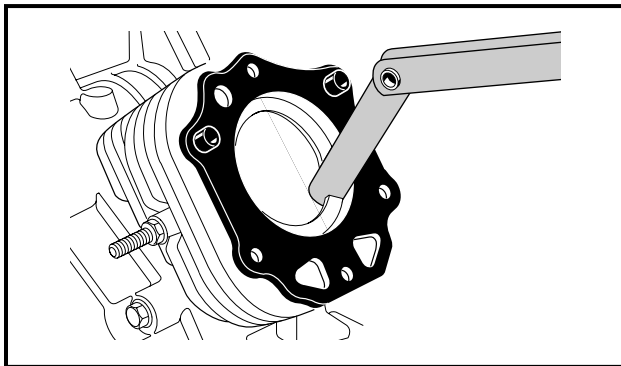

Figure 18-45 Measure Ring End-Gap
2. Use a feeler gauge to measure the ring end-gap (**Figure 18-45, Page 18-25**).